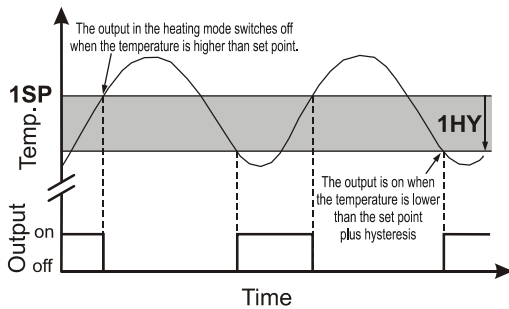
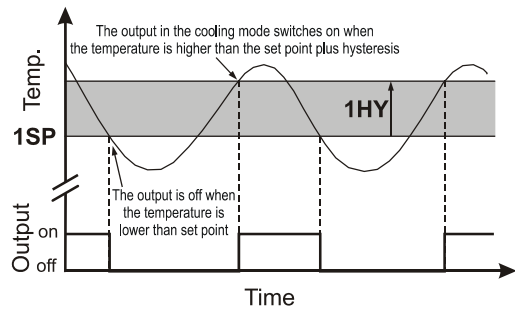

Figure 1 ON/OFF control in heating mode
Figure 2 ON/OFF control in cooling mode
4.2. ON/OFF control. In the ON/OFF mode the output is ON or OFF in relation to the input temperature, set point (**1SP**) and hysteresis value (**1HY**). The hysteresis indicates the amplitude of deviation of the temperature from the set point in order to reactivate the output. Increasing the hysteresis value decreases the switchovers of the output, while decreasing the hysteresis value gives finer control. For channel 1 to operate in the heating mode, assign a negative value (see Figure 1) to **1HY**; assign a positive value for control in the cooling mode (see Figure 2). With **1HY=0** the output is permanently cut out. After a switchover the output remains in the new state for a minimum time of **1CT** seconds irrespective of the temperature value.
5.4. ON/OFF control. In the ON/OFF mode the output is ON or OFF according to the input temperature, differential/set point (**2SP/2DF**) and the hysteresis value (**2HY**). The hysteresis indicates the amplitude of deviation of the temperature from the set point in order to reactivate the output. Increasing the hysteresis value decreases the switchover of the output, while decreasing the hysteresis value gives finer control. For channel 2 to operate in the heating mode, assign a negative value to **2HY** (see Figure 1); assign a positive value for control in the cooling mode (see Figure 2). With **2HY=0** the output is permanently cut out. After a changeover the output remains in the new state for a minimum time of **2CT** seconds irrespective of the temperature value.